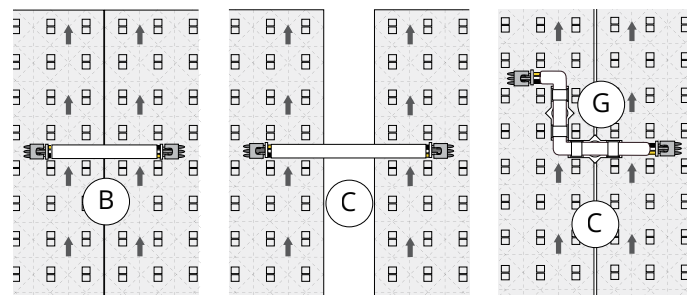
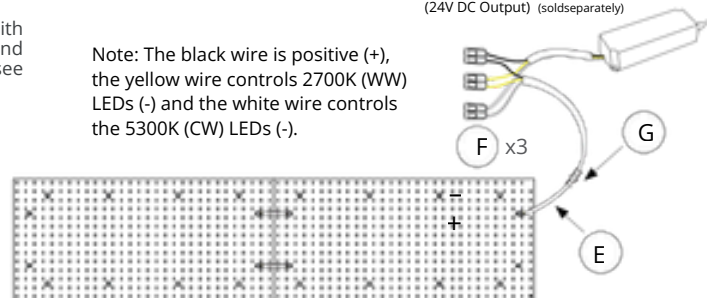

Figure 3
Figure 7
Use the long sheet-to-sheet connection wires (C) to bridge gaps and/or connect offset sheets as shown in Figure 3.
Route the connection wires so that the light from the LEDs is not blocked and hold the wires in this position using cable management clips with silicone adhesive backing (G) as shown in Figure 3. Once applied, let this adhesive backing cure for 10-30 minutes before routing wires through the clip. When possible, use a mechanical fastener to secure the clip. If this is not possible in your installation you may need to utilize a cyanoacrylate adhesive to create a reliable bond between the clip and light sheet. A supplementary document that outlines this process is available upon request.
Includes one 48" (1219.2 mm) 20 AWG 3-conductor power lead wire with stripped & tinned ends (E), three Wago connectors (F) (see Figure 7) and four cable management clips with silicone adhesive backing (G) (see Figure 3).
Use the power lead (E) to route power from the power supply to a single Light Sheet or a set of up to eight Light Sheets. Use Wago connectors (F) in place of wire nuts, for a secure connection of wires of the same polarity (see figure 7). Do not exceed the 4 A maximum load capacity of a connection block in any configuration nor interconnect more than eight sheets (88 W total). If any Light Sheet fails to light, check that the sheet-to-sheet connection wires are fully connected into the 3-pin connection blocks. If the whole layout fails to light, check polarity at the power supply, proper connection at the splicing connectors, and supply power at the source.